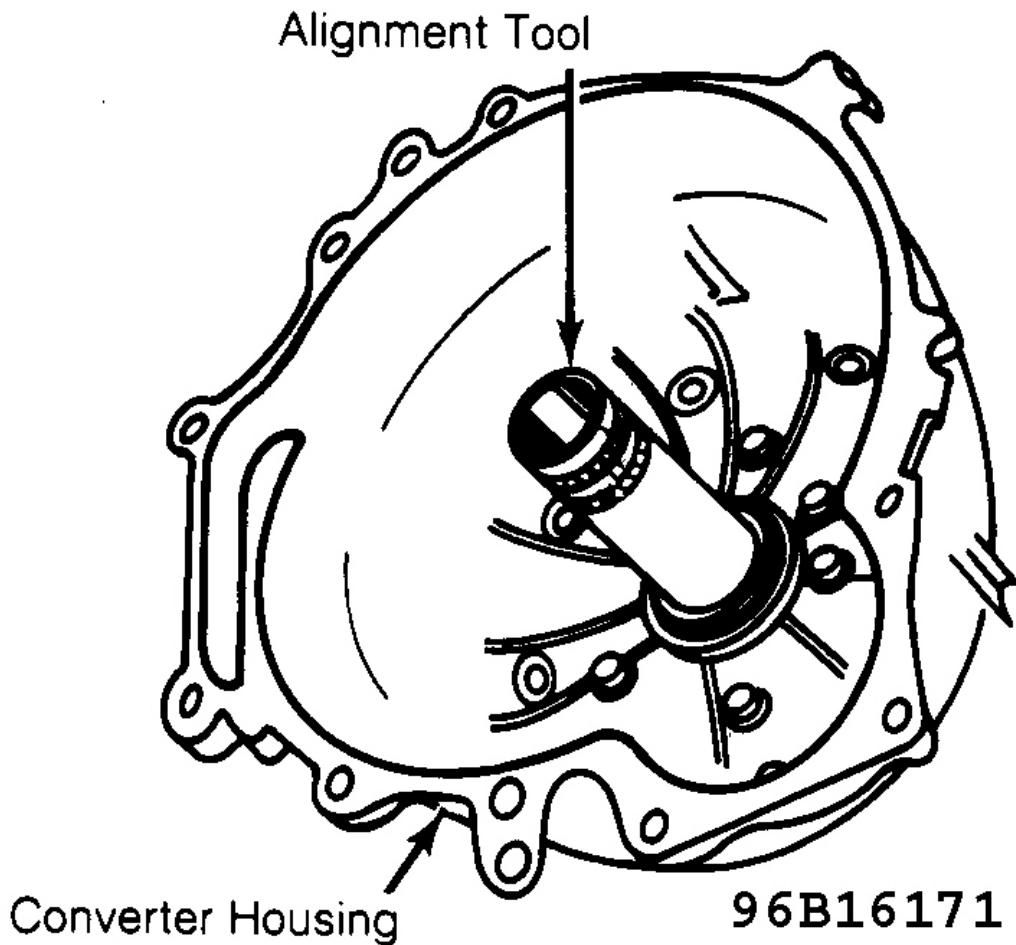

Fig. 40: Front View of Converter Housing.
13. Select smallest I.D. sleeve which will fit completely over support shaft. Assemble selected sleeve to handle. Slide tool down over shaft until it bottoms against pump. See **Fig. 40**.